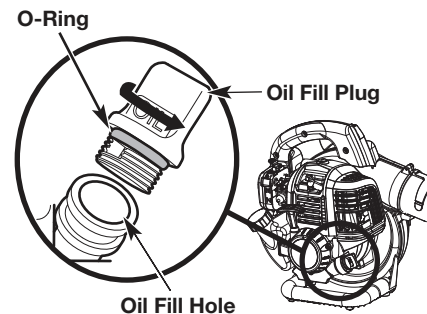

Fig. 4
2. Unscrew the oil fill plug (Fig. 4).
3. Pour the entire container of oil into the oil fill hole (Fig. 4).
Note: Make sure the O-ring is in place on the oil fill plug (Fig. 4).